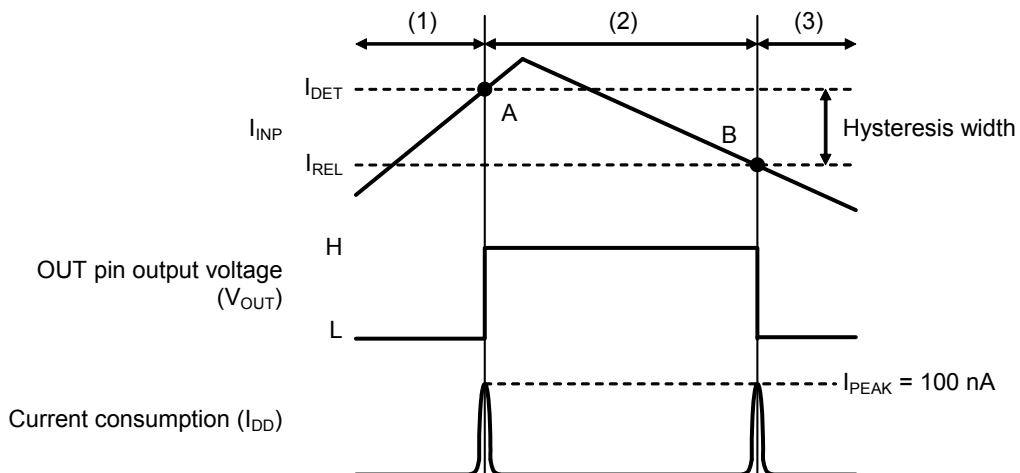

Figure 14 Operation when Detecting Certain Current Level
- (1) If I_{INP} is lower than I_{DET} , an "L" level signal is output from the OUT pin.
- (2) If I_{INP} increases and becomes equal to or higher than I_{DET} , an "H" level signal is output from the OUT pin (point A in **Figure 14**). Even if I_{INP} decreases and falls below I_{DET} , as long as I_{INP} is higher than I_{REL} , an "H" level signal is output from the OUT pin.
- (3) If I_{INP} then decreases further and becomes equal to or lower than I_{REL} , an "L" level signal is output from the OUT pin (point B in **Figure 14**).
- 2.** Feed-through current ($I_{PEAK} = 100$ nA) flows around the time when the OUT pin voltage switches, as shown in **Figure 14**. Therefore, if the input current is fixed around this time, the current consumption will increase.
The hysteresis width is the current difference between the detection current and the release current (current at point B – current at point A in **"Figure 14 Operation when Detecting Certain Current Level"** and **"Figure 16 Operation when Detecting the Difference of Current Level"**).